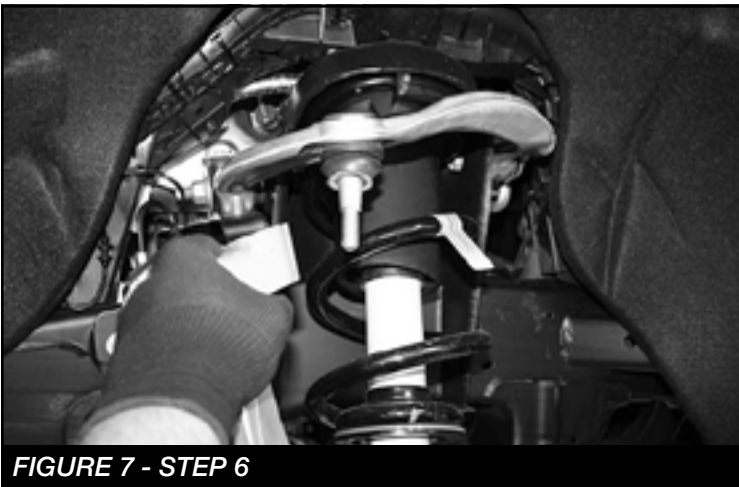

FIGURE 7 - STEP 6
6. Loosen the upper ball joint nut and strike the knuckle with a hammer until it comes loose from the upper control arm. Next, remove the factory nut. Then, detach the knuckle from the upper control arm. Push the knuckle to the side and secure if possible. **SEE FIGURE 7**